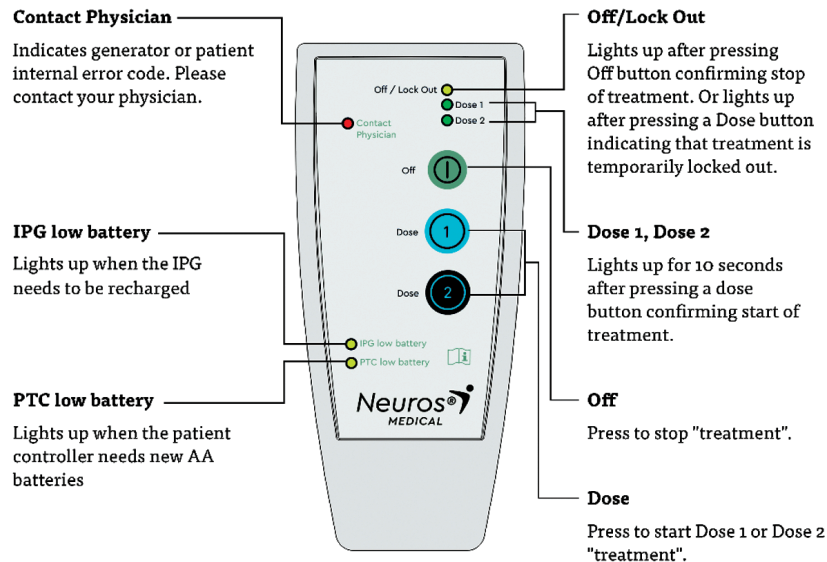

Figure 1: Altius Patient Controller
- Figure 1: Altius Patient Controller 10